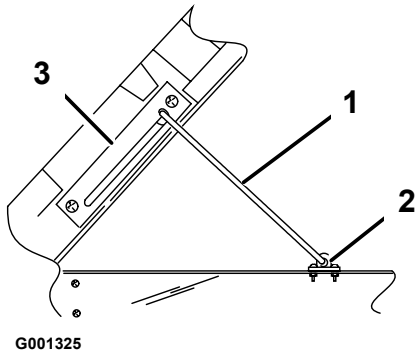

Figure 8
7. Remove the screws and clip securing the prop rod to the frame rail (Figure 8).
8. Remove the screws securing the prop rod bracket to the underside of the box. Remove the retainer securing the rod to the bracket and remove the rod (Figure 8). Retain the prop rod components for future use.